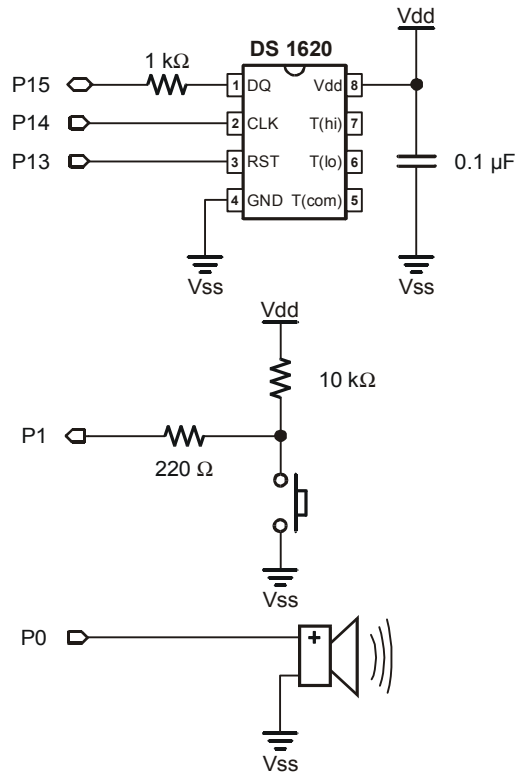
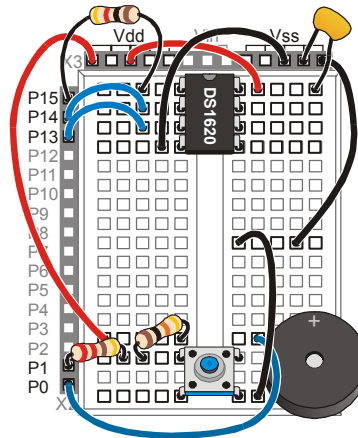

Figure 2-1
Figure 2-2
- ✓ Build the circuit as shown in the schematic (Figure 2-1) and wiring diagram (Figure 2-2).